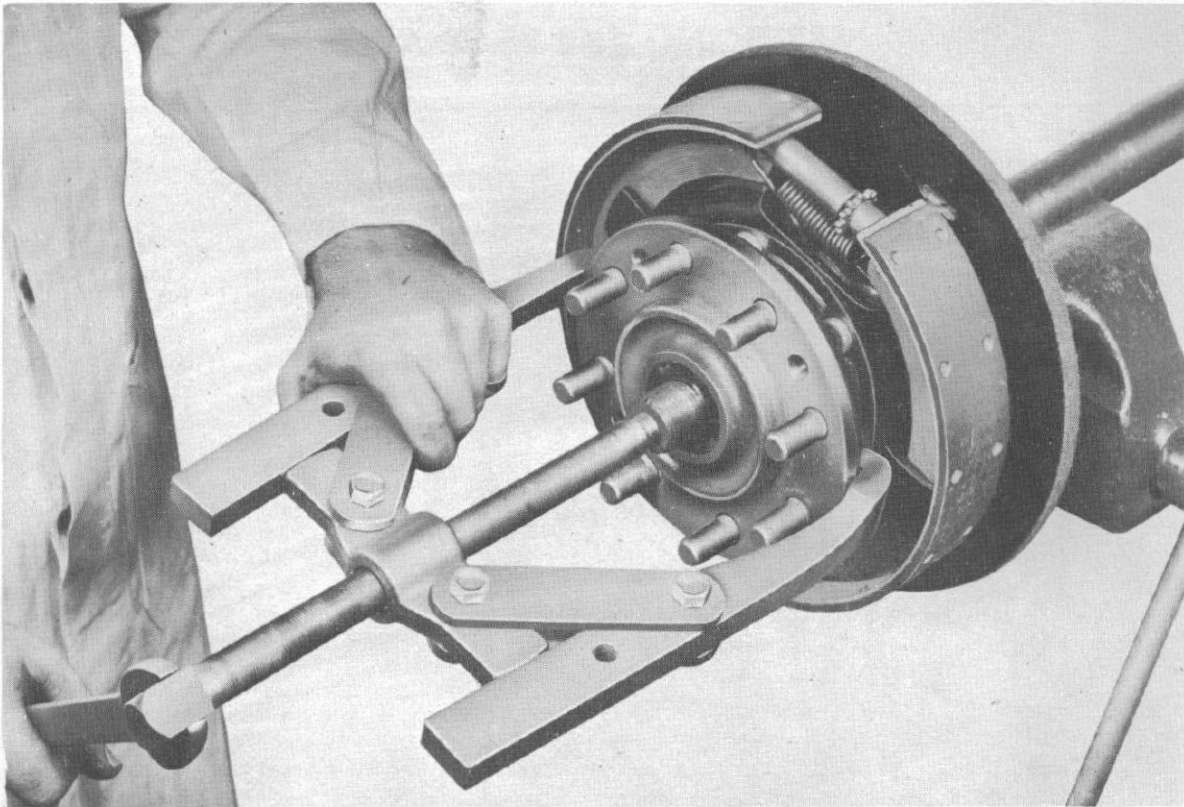

Fig. 2
Step 5—Remove the axle hub as shown in Figure 2.